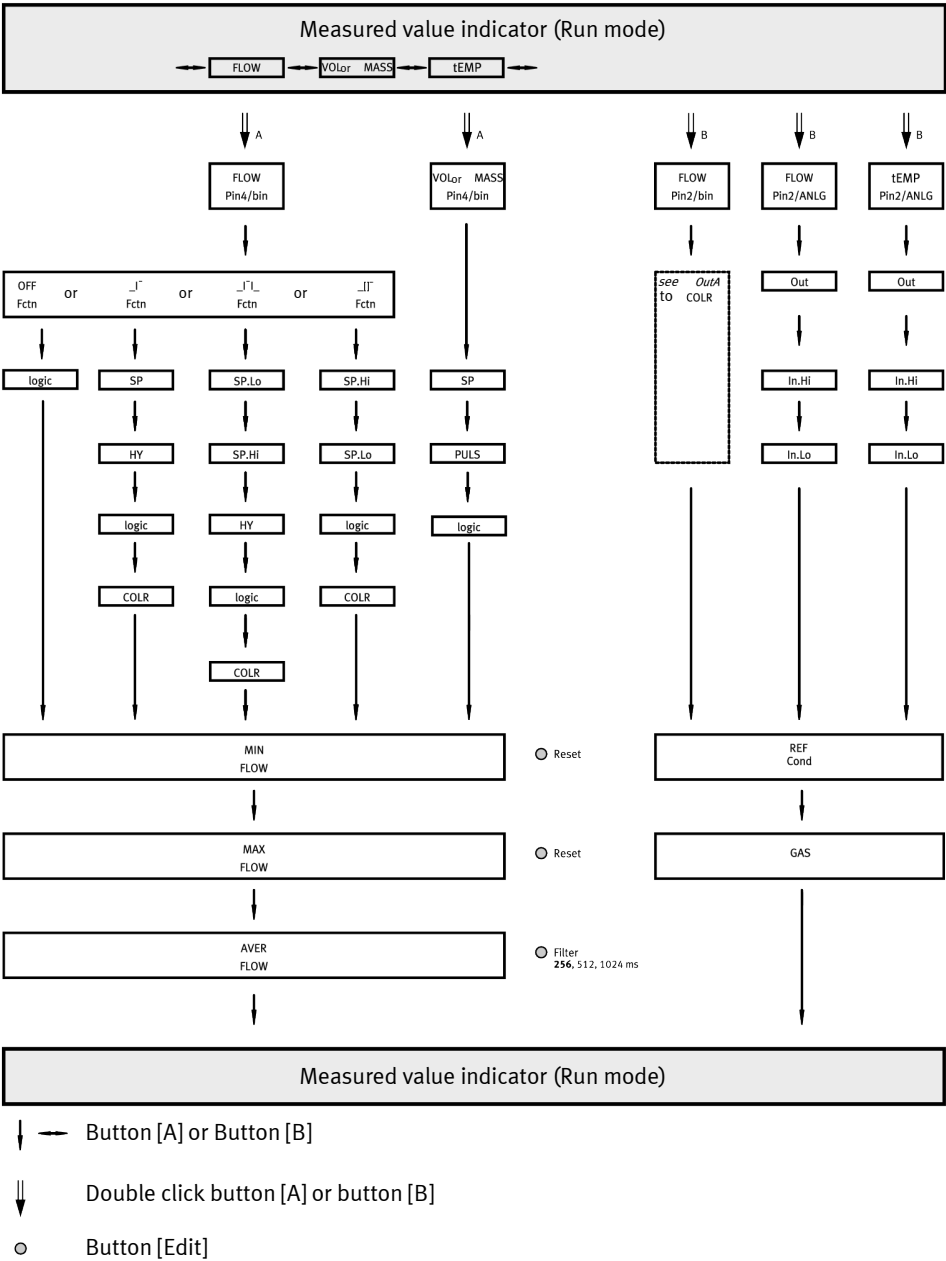

Fig. 11: Menu structure for SHOW mode
2. Press the [A] key to display the following parameters → Fig. 11.
2. Press the [B] key to display the following parameters → Fig. 11.